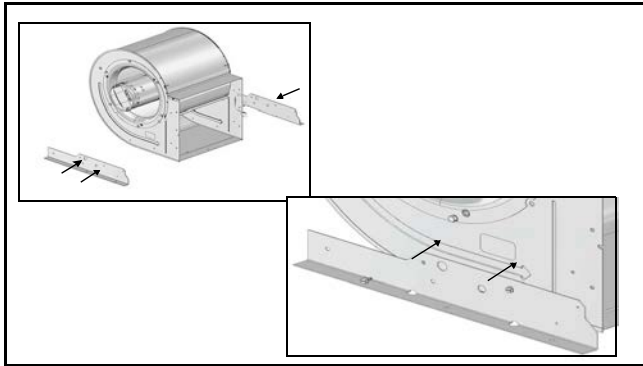

Fig. 36
13. Reinstall the two vertical blower brackets in the new horizontal position using four screws. (See Fig. 36.)